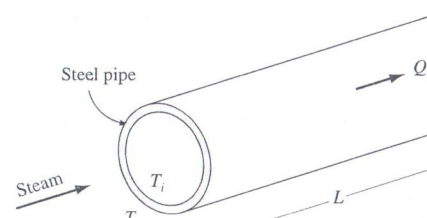

Figure P6.14 Swimming pool dynamics.
- 6.14 Shown in Figure P6.14 is a swimming pool operating in cool weather. The pool has a heater that provides a heat input of  $q_h$  watts. The water depth varies from  $1.2\text{ m}$  to  $3\text{ m}$ , and the pool is  $5\text{ m}$  wide by  $10\text{ m}$  long. A pump runs continuously to keep the water thoroughly mixed.